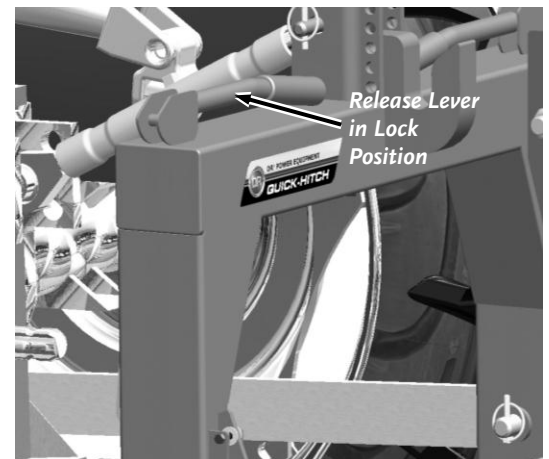

Figure 7
1. Assure the release levers are into the Lock position (**Figure 7**).
5. Assure the Release Levers are in the Locked position (**Figure 7**).